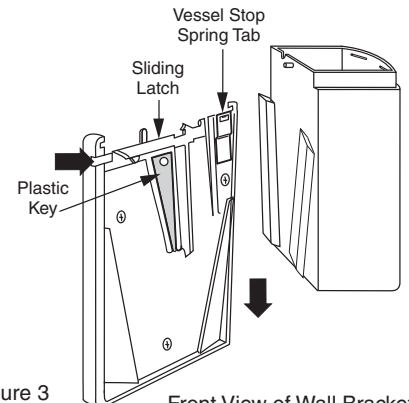

Figure 3
1. Break off the plastic key from the wall bracket (see Figure 3). Using this key, push the concealed sliding latch located in the small slot at the upper left side of the wall bracket. The lid will automatically pop forward.